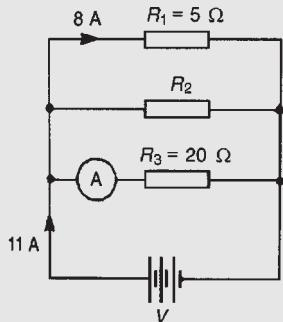

Figure 5.13
**Problem 6.** For the circuit shown in Fig. 5.13, determine (a) the reading on the ammeter, and (b) the value of resistor  $R_2$ .